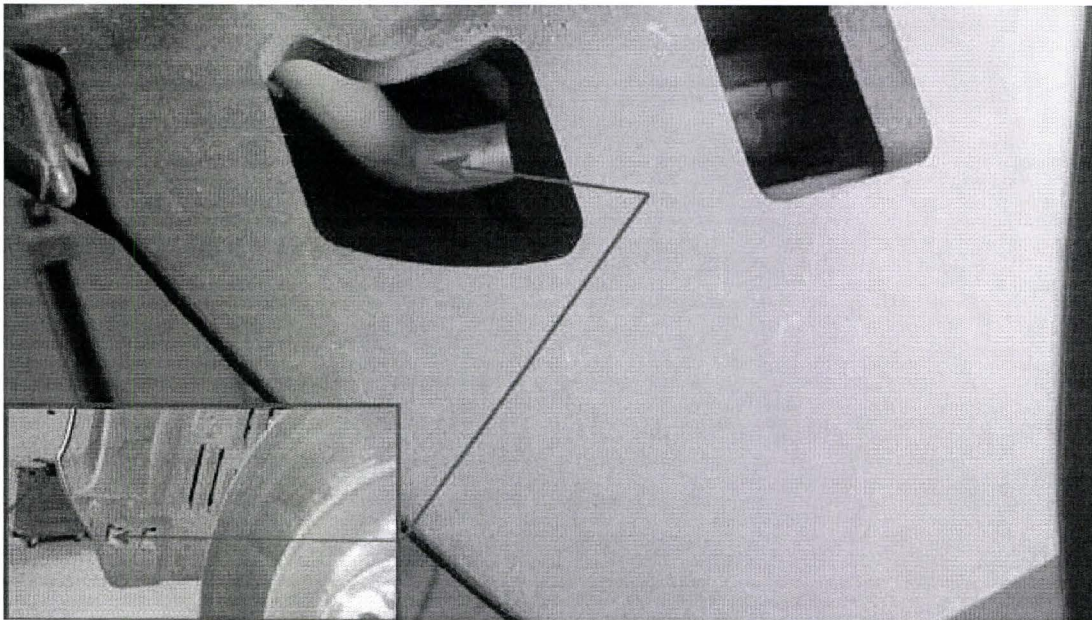

Figure 5
If the vehicle is not already listed as repaired in the "Repair history" (ElsaPro), check for the campaign identification mark, yellow paint mark on the steel pipe (Figure 5), should neither be evident carry out the require work in accordance with these instructions
7. Apply yellow paint campaign identification mark to the air conditioning suction pipe (see Figure 5)
On completion apply a yellow campaign completion mark to the air conditioning suction pipe (large) such that the mark can be viewed through the left hand front wheel arch liner (see Figure 5)